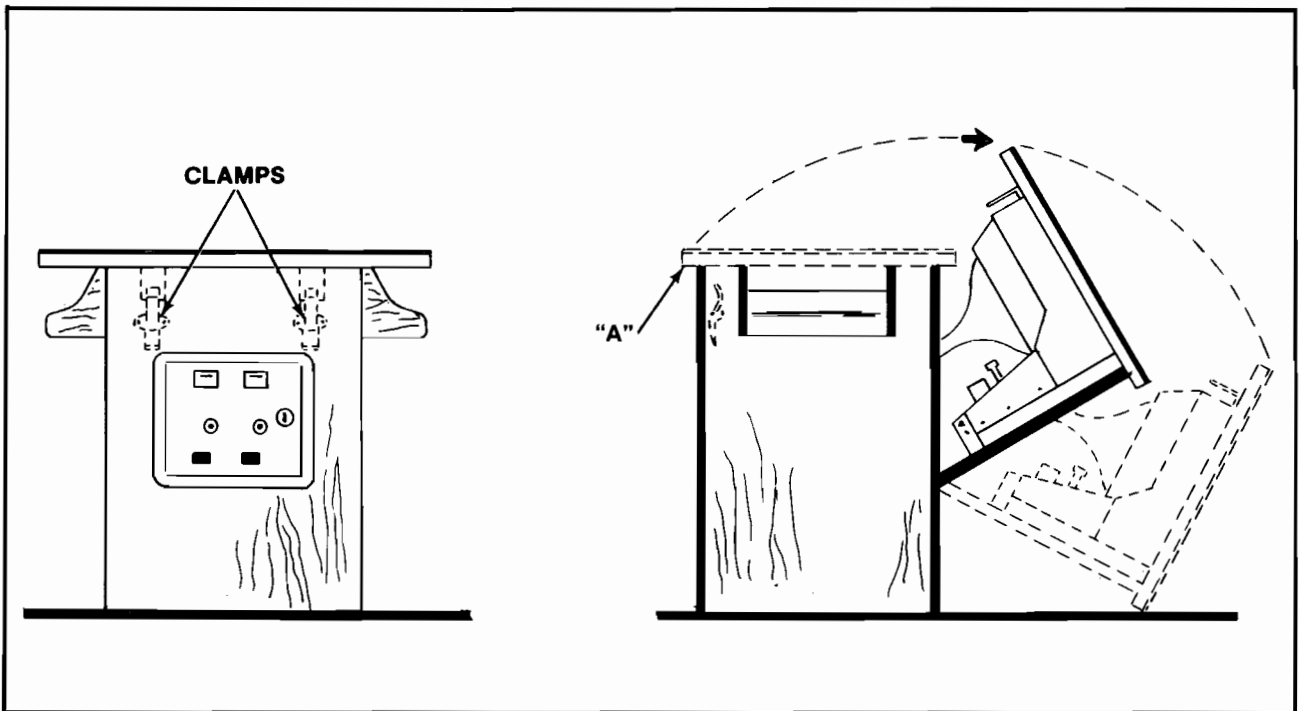

Figure 2-10 Opening the Cocktail Game
- Open the coin box door and release the two latches indicated in Figure 2-10.
- Grasp the table top at "A" and open it as indicated in Figure 2-10.
Open the coin box door and release the two latches indicated in Figure 2-10.